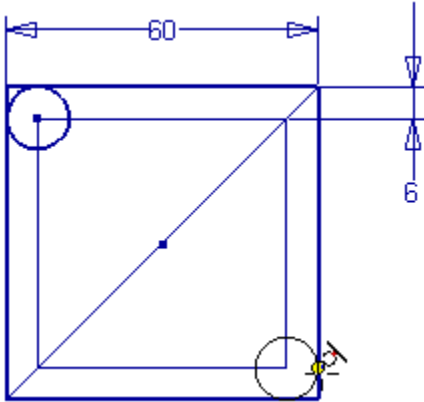

Figure 21: Two circles added to sketch.
3. Sketch two circles as shown in Figure 21. The center point of each circle is coincident to a corner of the construction rectangle, and the circle is tangent to the outer rectangle.